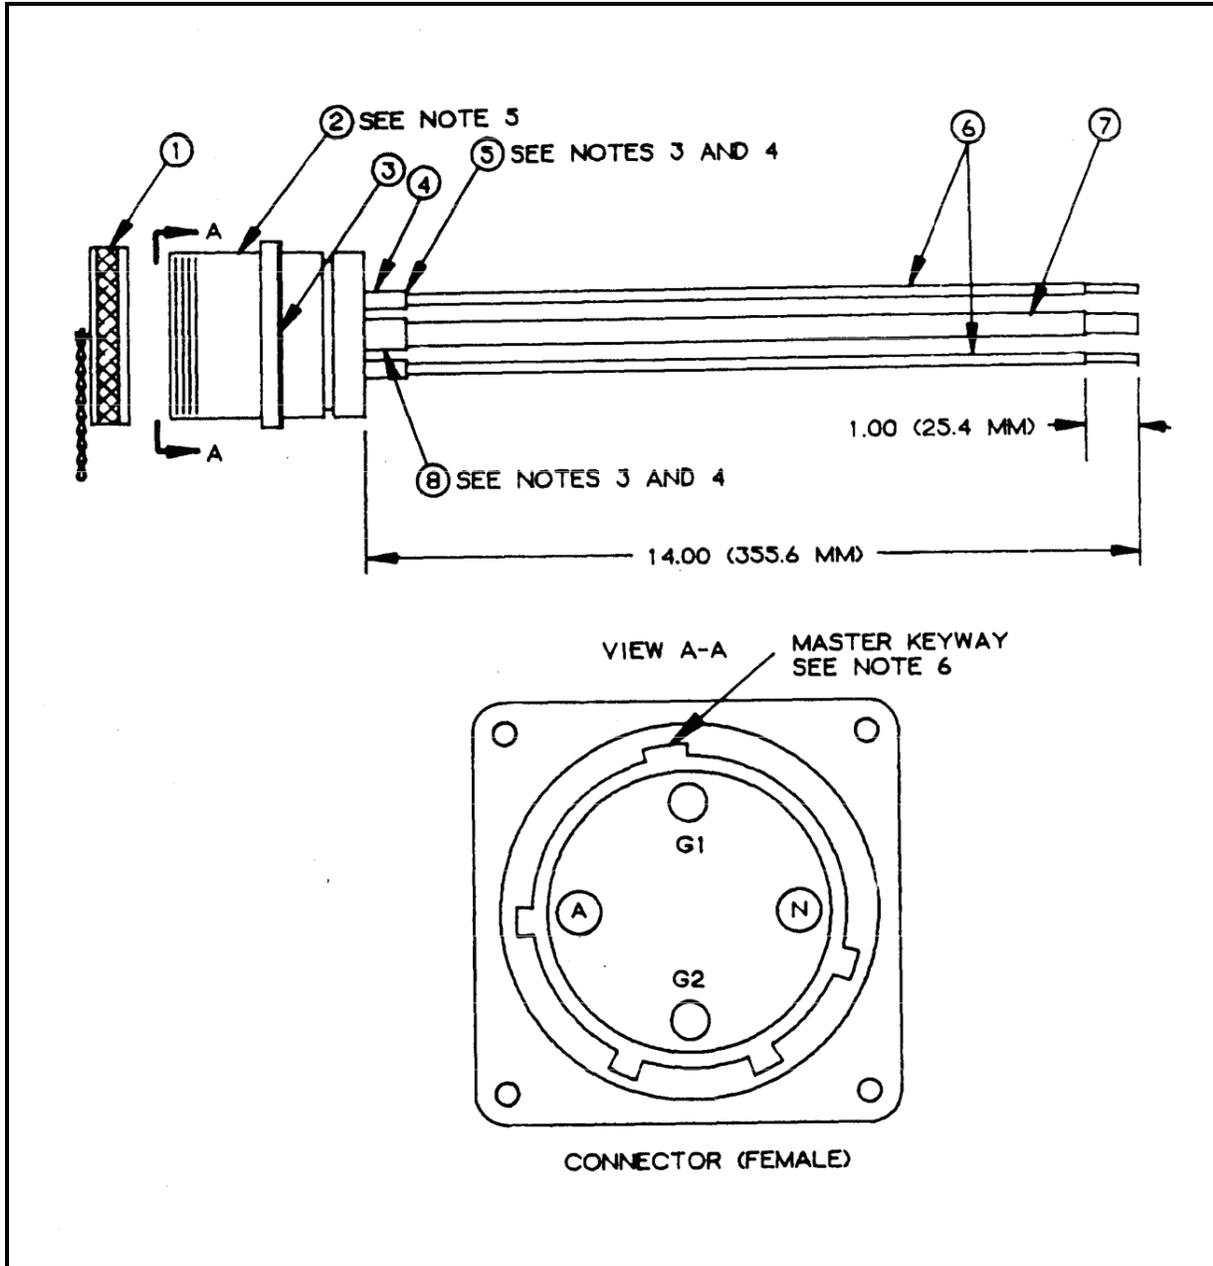

Figure F-11. M60, 60-Amp, Output Connector Assembly.
Component Legend for Figure F-11
c. Electrical connector (Figure F-11, Item 2) is furnished with the following: